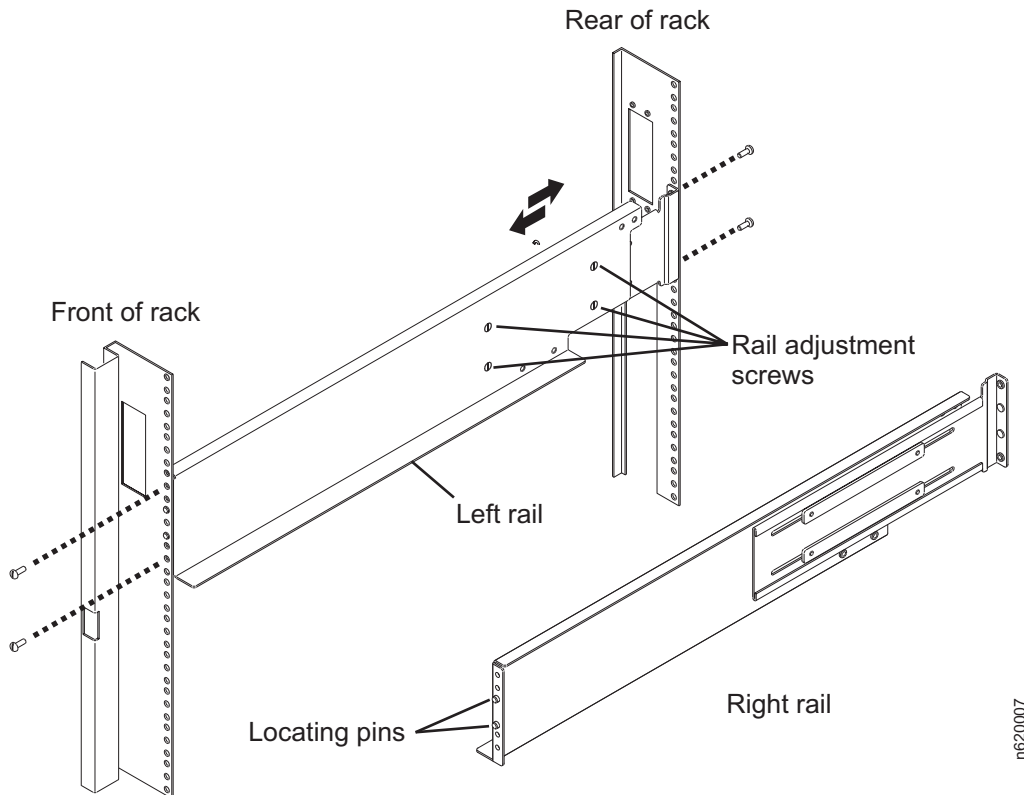

Figure 3. Installing the rails in the rack
1. Loosen (but do not remove) the four rail adjustment screws on each rail, as shown in Figure 3.